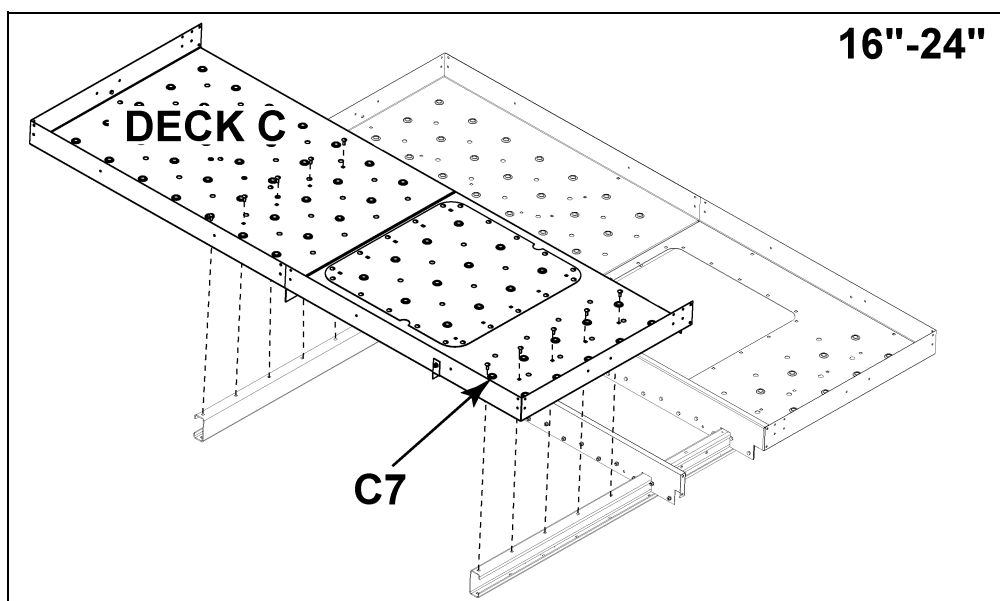
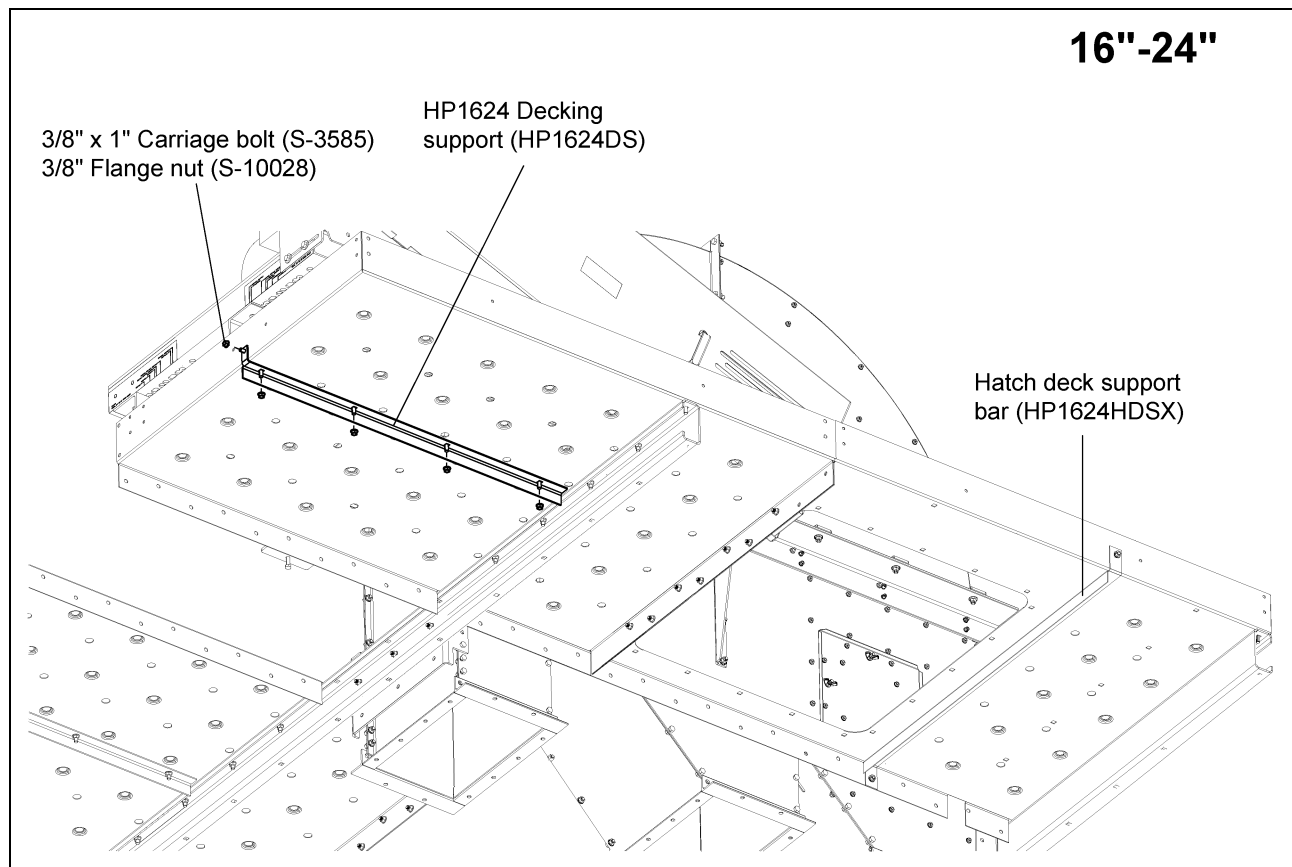

Figure 7F 16" Deck C to Support Channels
Figure 7G Deck C HP Deck Support as Viewed from Underneath.
1. Using 3/8" x 1" carriage bolts (S-3585) and 3/8" flange nuts (S-10028), connect Deck C to main support channel. **IMPORTANT:** Connect every hole. (See Figure 7F.)
2. Install decking support (HP1624DS) to up-leg end of Deck A as shown. Using five (5) 3/8" x 1" bolts (S-7105) and 3/8" nuts (S-10028).
- a. Using 3/8" flange nuts (S-10028) and 3/8" x 3/4" flange bolts (S-7105), connect the hatch deck support bar to the kick plate attached to Deck C and to the hole labeled **A2** on decking nearest the side toe board and lower head. Torque to standard specifications. (See Figure 7G on Page 49.)